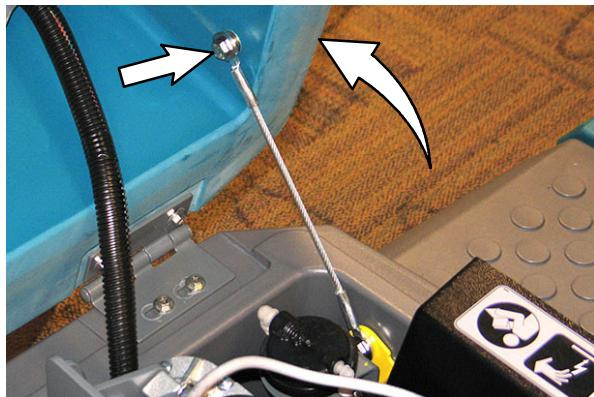

**FIG. 1**
*NOTE: **Do Not** empty the solution tank before installing the new lithium battery (1). The solution tank must be full when installing this kit so the machine does not tip over.*
2. Turn off the lithium battery pack. Press and hold the power button on one of the lithium batteries for 20 seconds to turn the entire battery pack off. (Fig. 1)